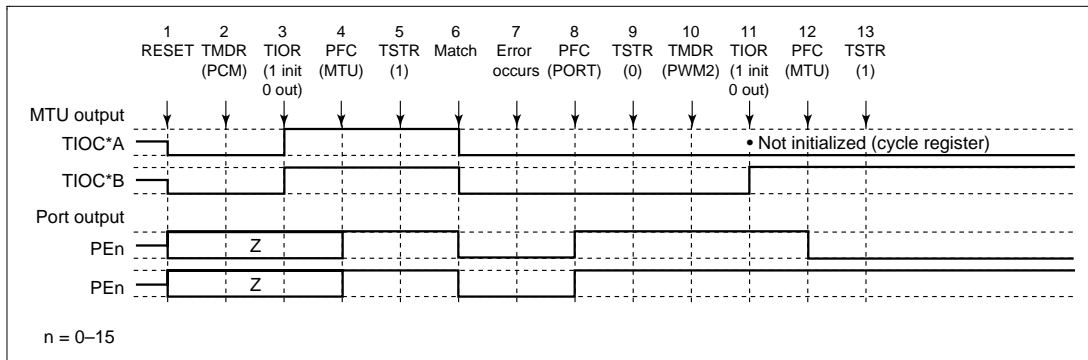

Figure 10.75 Error Occurrence in Phase Counting Mode, Recovery in PWM Mode 2
(15) Operation when Error Occurs during Phase Counting Mode Operation, and Operation is Restarted in PWM Mode 2: Figure 10.75 shows an explanatory diagram of the case where an error occurs in phase counting mode and operation is restarted in PWM mode 2 after re-setting.